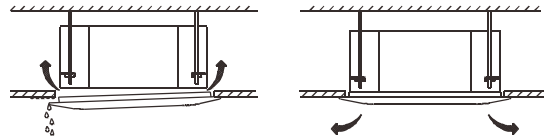

Fig. 20 - Eliminate Space
3. After installing the decoration panel, ensure there is no space between the unit body and the decoration panel. Otherwise air may leak through the gap and cause dewdrops (see Fig. 20).